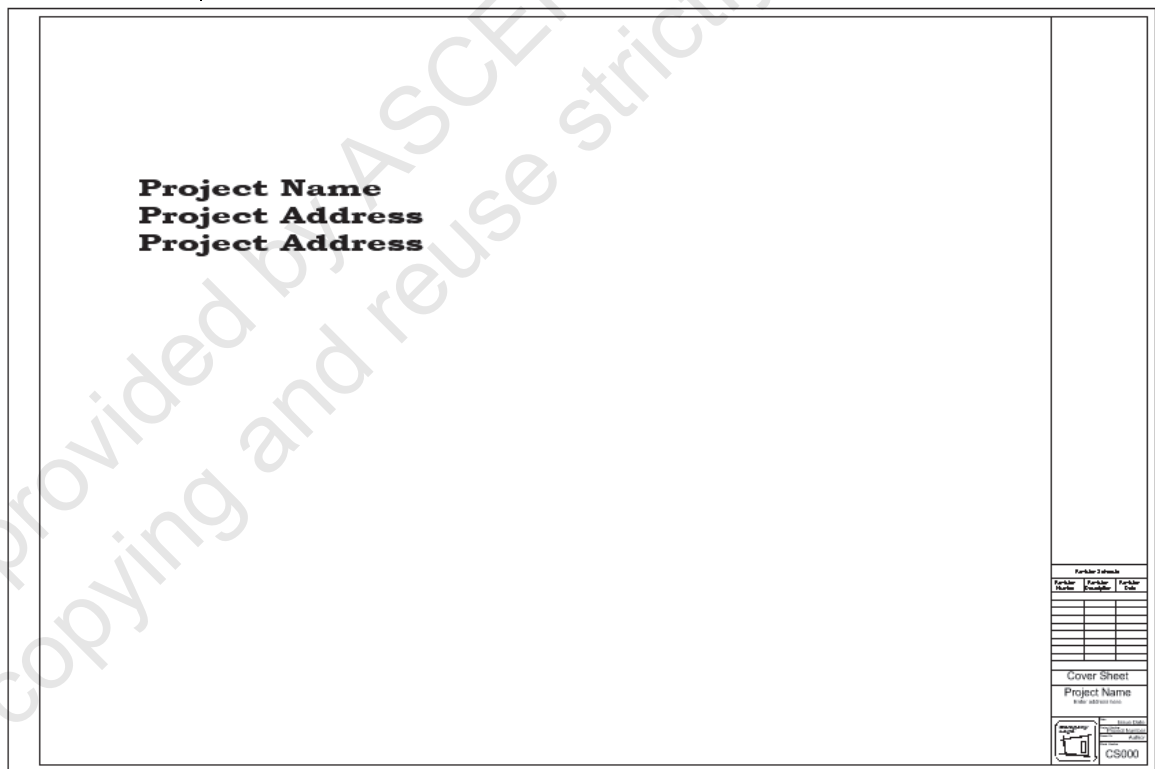

Figure 1–102
6. Using the **Title Large** text type, add text for the project name and address, as shown in Figure 1–102.